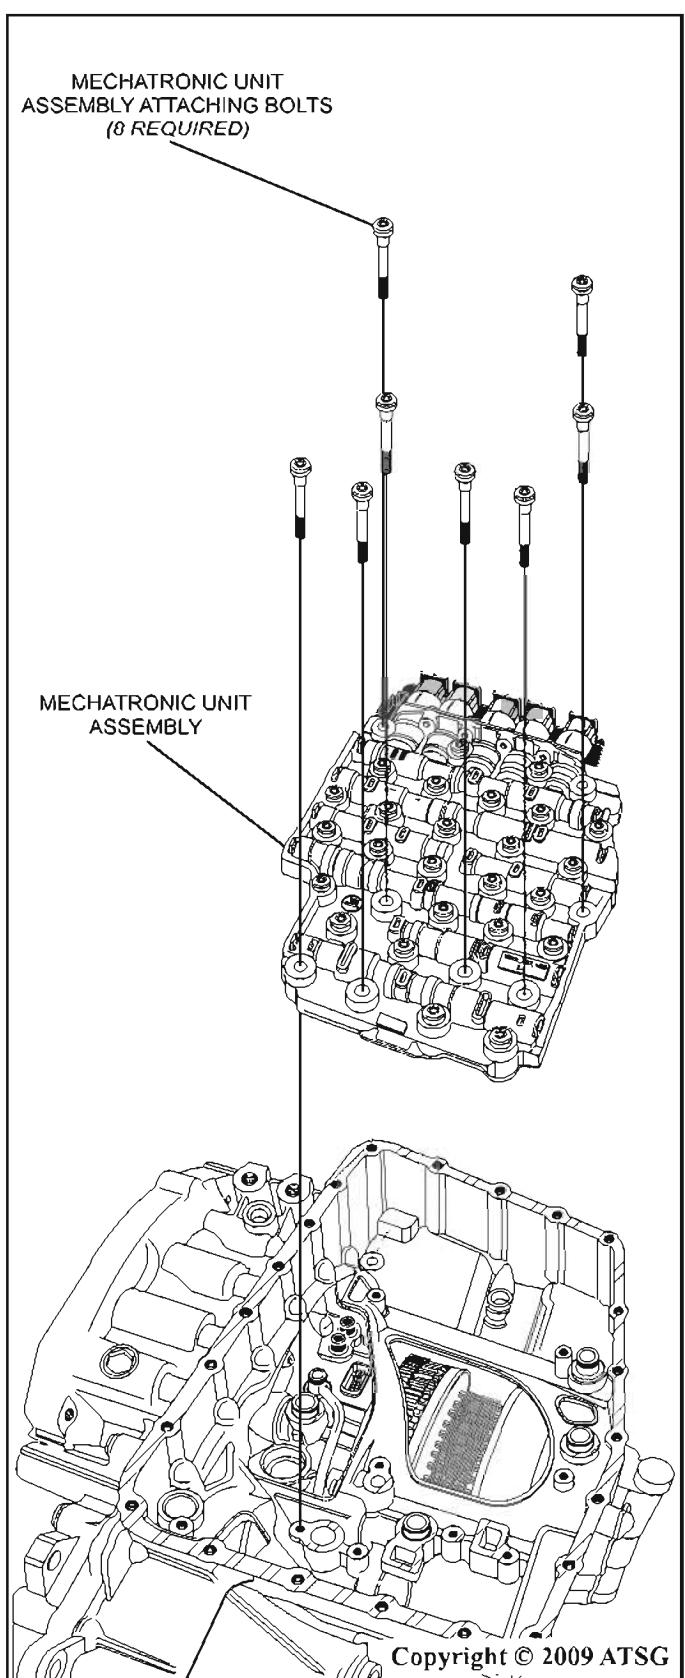

Figure 27
68. Install the mechatronic unit assembly onto the transaxle case as shown in figure 27. Use care to not cut the o-rings on the feed tubes as the mechatronic unit assembly is placed down.
69. Install the mechatronic unit assembly attaching bolts (*8 required*) as shown in figure 27.